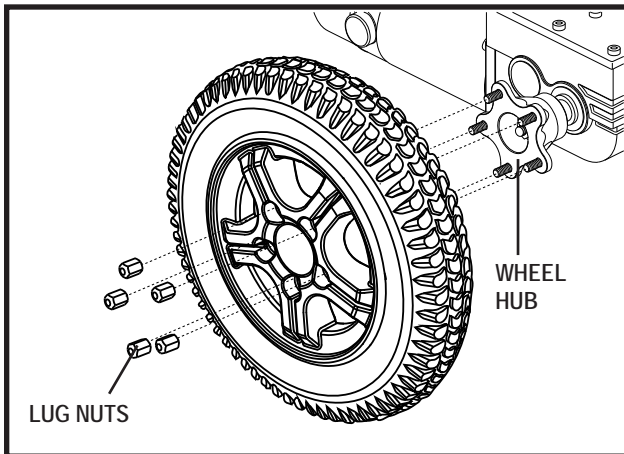

Figure 19. Quantum 600Z Series Drive Wheel
4. Remove the five (5) lug nuts from the wheel hub. **See figure 19.**